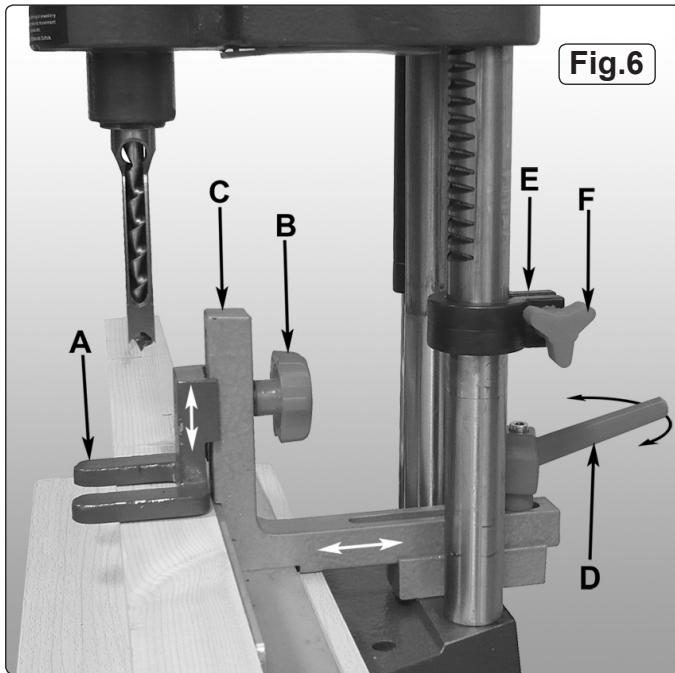

Fig.6
- 6.1.4 **Depth stop adjustment.** See E in Fig.6. The depth stop limits the depth of chisel cut. To adjust the depth stop, loosen lock knob (Fig.6F) and lower the head until the bottom of the chisel is at desired depth. Raise the depth stop until it makes contact with the underside of the head and re-tighten knob.